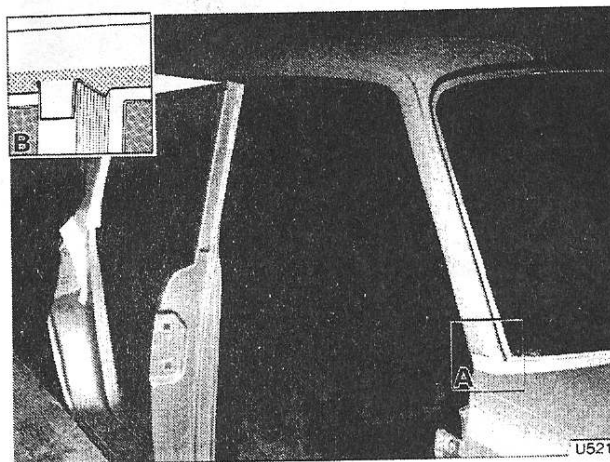

Fig. S107 Detail finishing
Using the brass strips supplied, fit the strip around the bottom of the 'A' post, parallel with the bottom edge of the windscreen aperture (see Fig. S107, inset A).
Carefully stick the trim to the 'A' post, pressing the brass strip firmly into position (see Fig. S107).
33. Cut the Everflex at the top of the 'B-C' post (see Fig. S107, inset B). The chrome finisher will then secure the trim at this point.